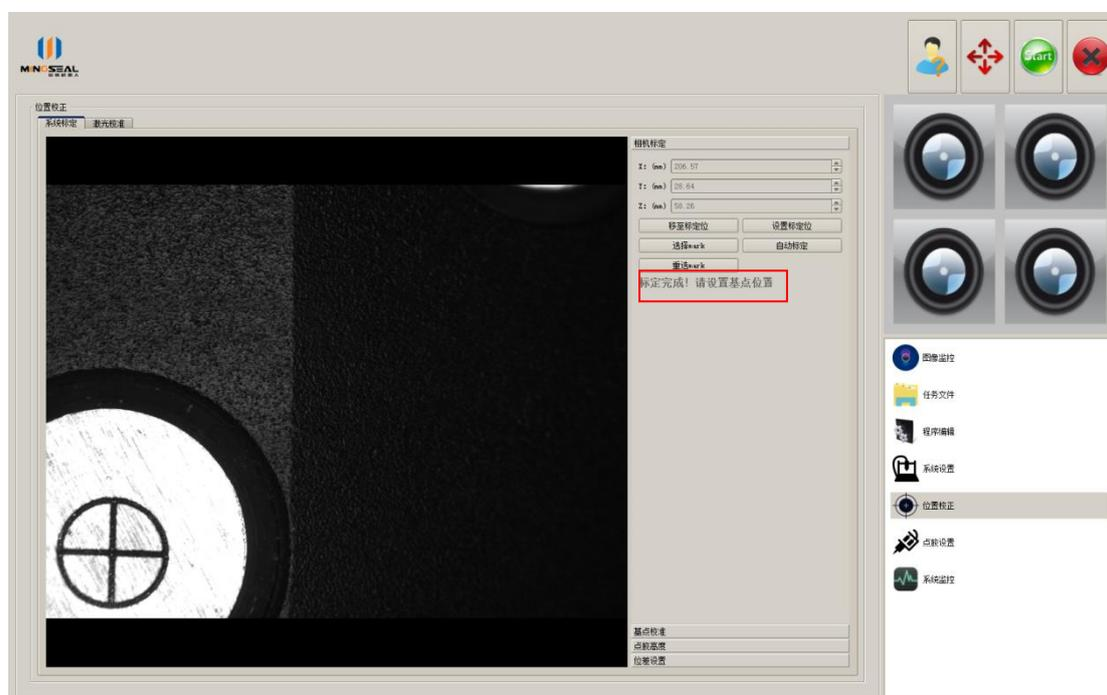

Figure 20 Automatic calibration complete
4) after the automatic calibration, the interface will remind the user ‘calibration complete’, as shown in figure 20.